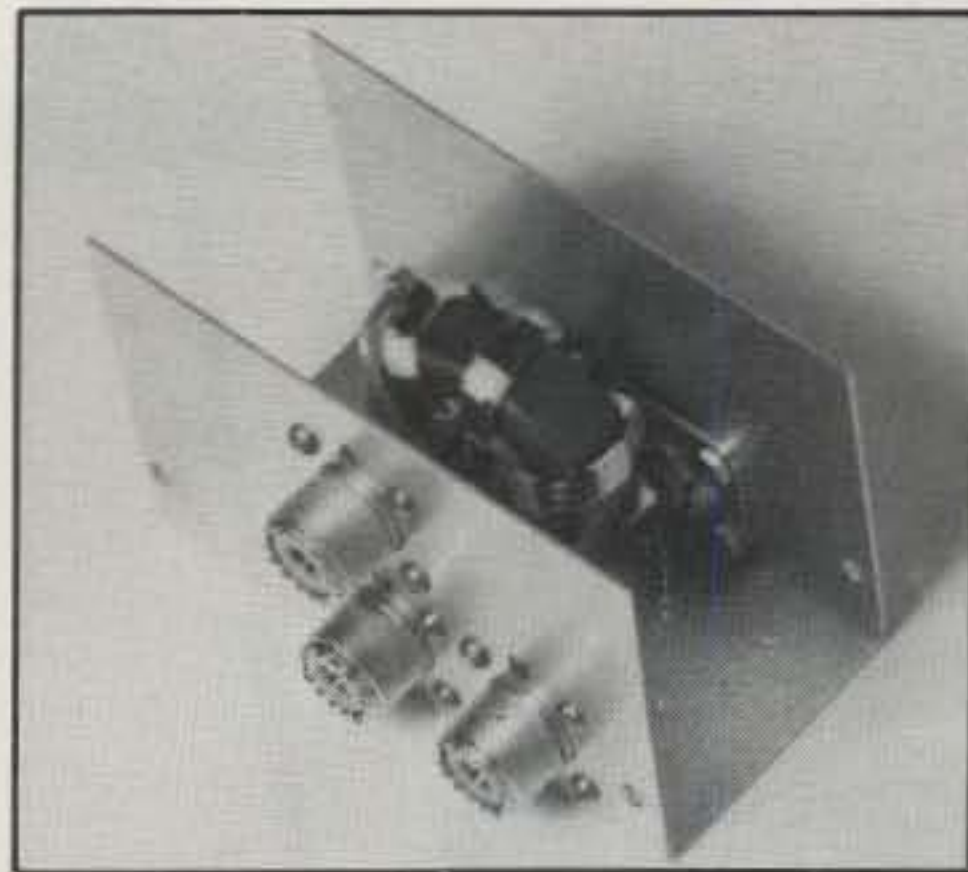

Fig. 3- High-power unit mounted in a 4" L x 2" W x 2.75" H CU-3015A minibox.
After several attempts at rearranging the windings of fig. 1(A) for best overall performance (optimizing the effective characteristic impedances of the windings), fig. 1(B) evolved. Fig. 2 shows the bottom view of an unun, using the circuit of fig. 1(B), capable of handling the full legal limit of amateur radio power. Fig. 3 shows the unit mounted in a CU-3015A minibox. It has five trifilar turns on a 1.5 inch OD ferrite toroid with a permeability of 250. Winding 5-6 is tapped at two turns ($n = 2$) from terminal 5.